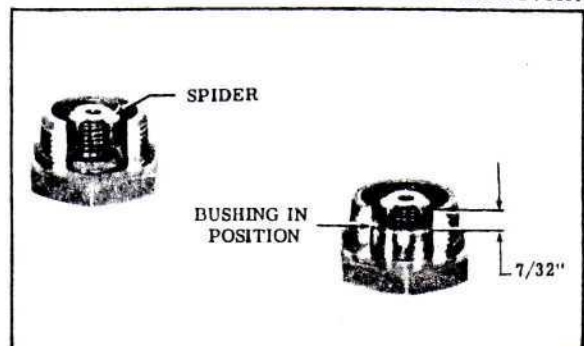

FIGURE 19
4. Place bumper bushing (B, Fig. 3) in intake valve (A, Figure 3) so the narrow edge seats on the bottom feet of the spider. The top of the bushing will then be approximately  $7/32"$  from the top of the valve (Figure 19).